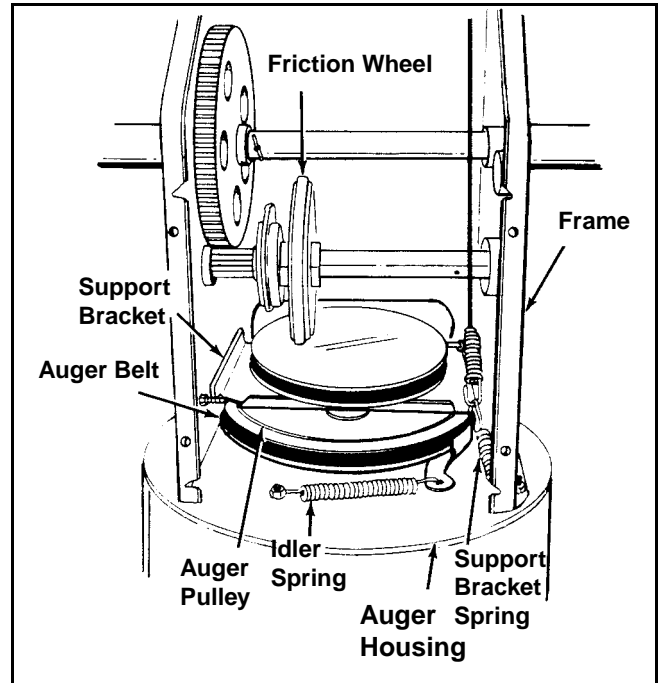

Figure 18
- Unhook the idler spring from the hex bolt on the auger housing. See Figure 18.
- Lift the rear auger belt from the auger pulley, and slip belt between the support bracket and the auger pulley. See Figure 18. Repeat this step for the front auger belt.